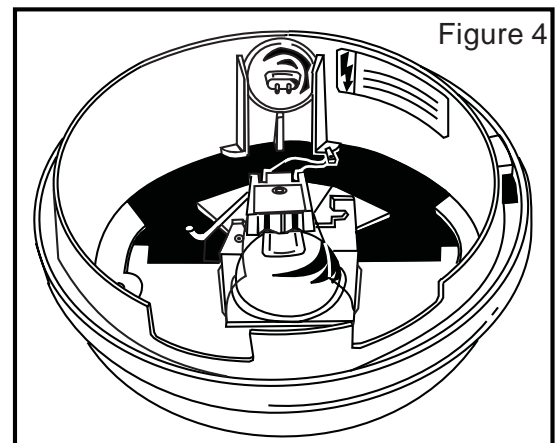

Figure 4
- There is a spot to hold a spare bulb at the back of the Photon Generator as shown in Figure 4. You can keep a spare bulb there so that it will always be handy—no more hunting all over the house to find a spare during the big party!